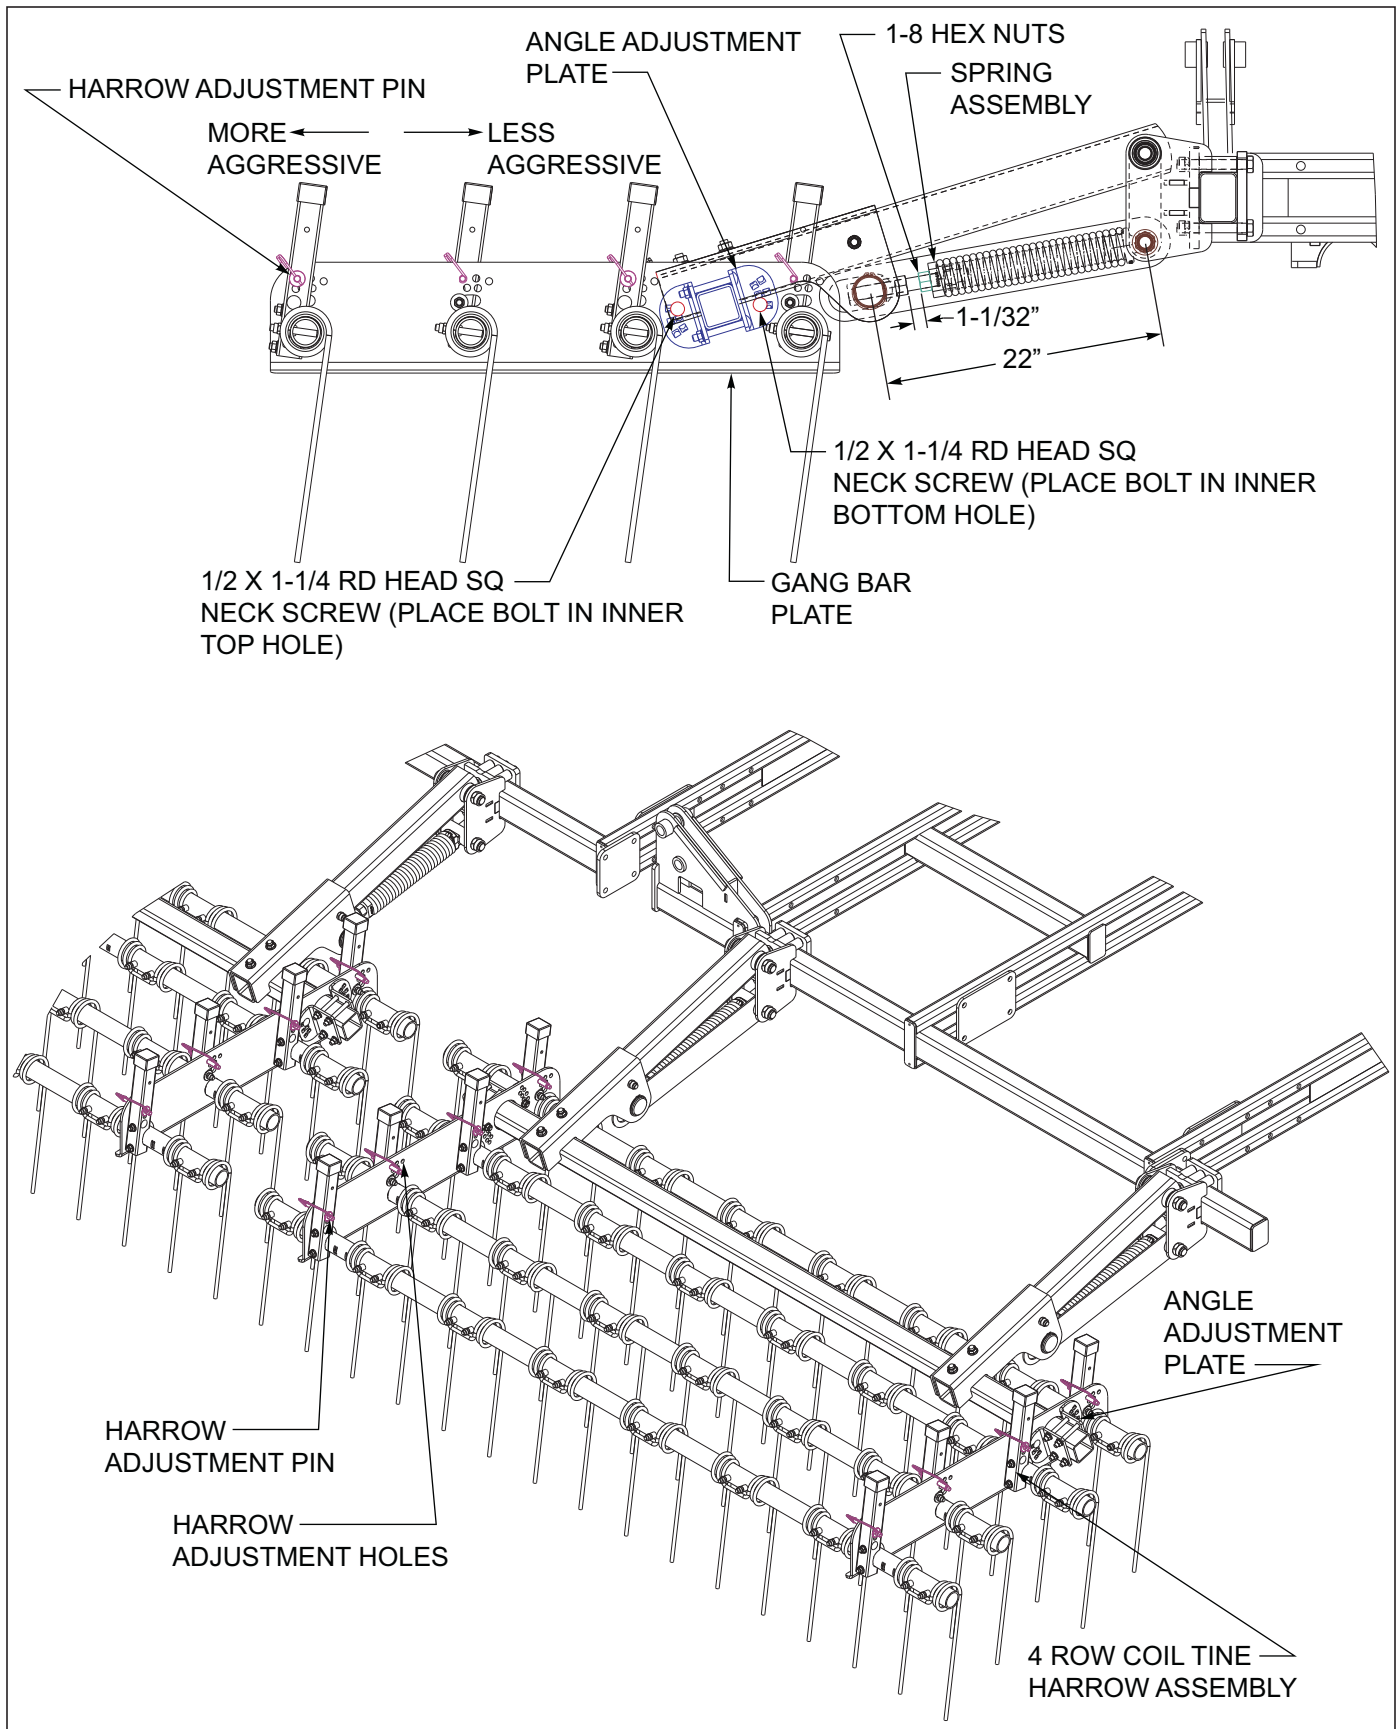

Figure 4-10: 4 Row Coil Tine Adjustment
2. In general tine harrows have better capabilities for handling more residue and wetter conditions. When operating the coil tine harrow, a more vertical tine tooth angle will make the harrow more aggressive. A lower/flatter tine angle will make the harrow less aggressive but will handle more residue and wetter conditions. To change the tine angle, raise the harrow off the ground. Remove the harrow pin from both angle adjustment tubes per tine gang bar tube **See Figure 4-10**. Rotate the angle adjustment tubes forward (less aggressive) or rearward (more aggressive) and reinstall both spring clip pins. Repeat the tine adjustment for each tine gangbar tube and harrow section.
3. The initial setting for the spring assembly should be 22". Each harrow section may also be adjusted for operating height. To change the harrow height **See Figure 4-10**, loosen both 1-8 hex nuts. Raise or lower the harrow arm by turning the bolt head for the spring adjustment bolt. Then re-tighten the 1-8 hex nuts. When initially setting the harrow height, the bottom tips of the tine tooth (pulled back at the desired tooth angle) should be approximately level with the field cultivator sweeps.